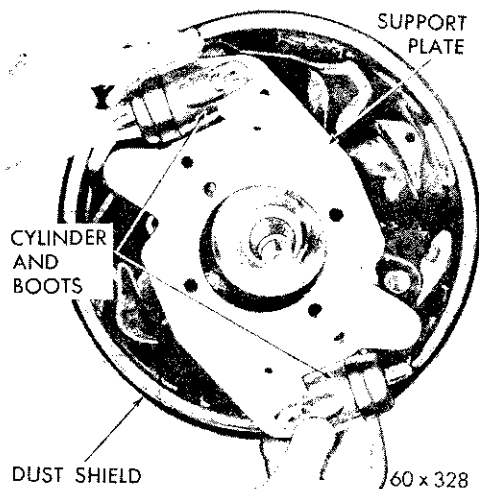

Fig. 14—Removing or Installing Support Plate (Front)
(5) Remove the brake assembly, as shown in Figure 14.
(1) Remove the rear brake shoes, as described in Paragraph 10.
(2) Disconnect the brake tube at the wheel cylinder. Remove the nuts and lockwashers that attach the support plates and wheel cylinders to the dust shield and axle housing flange (Fig. 14).